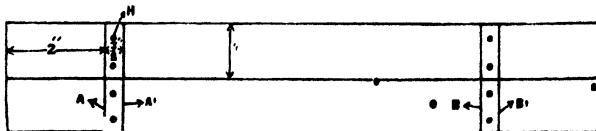

Fig. 87.
Place the two side pieces together and mark on them two lines A, A1, at a distance of 2" and  $2\frac{3}{8}''$  respectively from one end. (Fig. 87).
On each piece of wood mark with pencil the positions at which holes should be bored by the bradawl for nails. The positions of these holes are shown, (H), in Fig. 87; they lie mid-way between the lines.